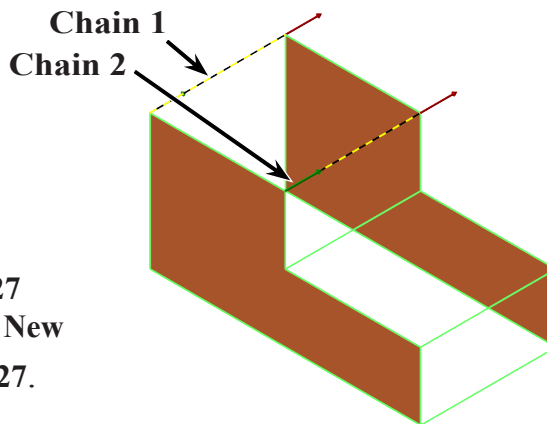

Fig. 26
Step 3. Click **Chain 1** and **Chain 2** on top of block, **Fig. 26**. If the chaining directions arrows are not pointing in the same direction - click **Reverse** .